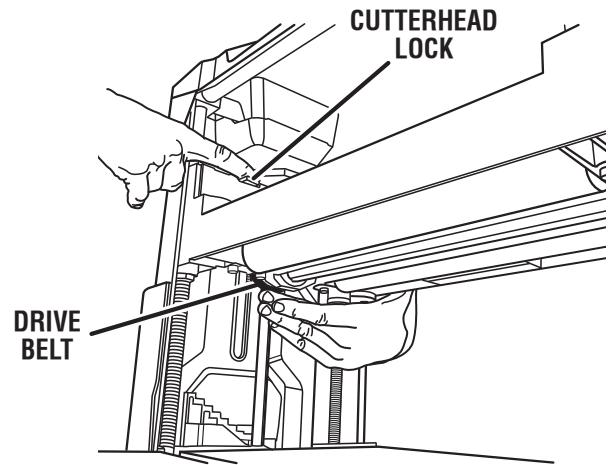

Fig. 21
See Figures 21 - 23.
- To rotate the cutterhead to the next blade, hold down on the red cutterhead lock and rotate the cutterhead 120° as shown in figure 21.